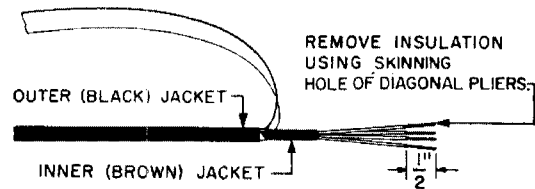

Fig. 4 — Wire Ready for Splicing
(6) Using the skinning hole of diagonal pliers, remove 1/2 inch of insulation from the end of each conductor, as shown in Fig. 4.
- (6) Remove the inner jacket for a distance of about 2 inches from the end of the wire. This can be done by using the sheath slitter as before or by cutting the jacket with diagonal pliers, starting at the open end of the jacket. Exercise care not to damage the conductor insulation.
- (7) Using the skinning hole of diagonal pliers, remove 1/2 inch of insulation from the end of each conductor, as shown in Fig. 4.